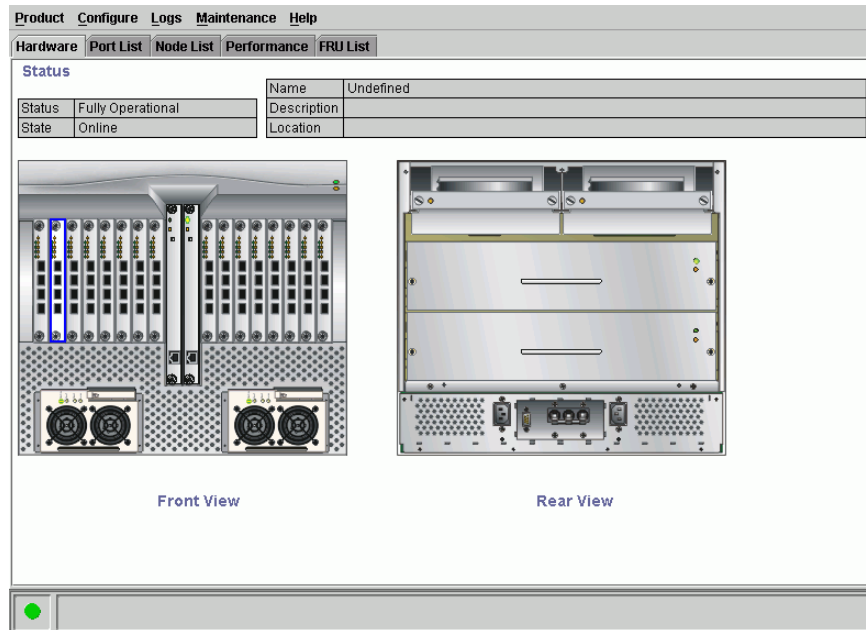

Figure 41: Hardware View page (with FRU failures)
2. Right-click the **Director 64** icon. A pop-up menu for the selected director displays, as shown in Figure 41.